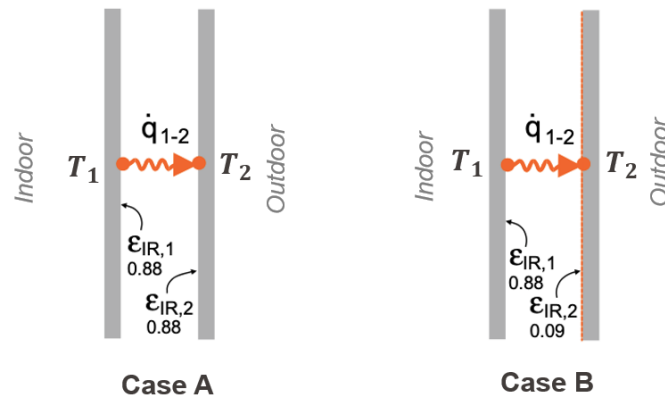

Figure 2: Illustration of cases (A) and (B)
Consider radiation heat transfer between two glasses in a double-pane window as illustrated in Fig. 2. The exterior side of the 1st glass has the temperature of $t_1 = 19^\circ\text{C}$. The interior side of the 2nd glass has a temperature of $t_2 = -8^\circ\text{C}$. In the case (A), both sides have the same emissivity value of $\epsilon_1 = \epsilon_2 = 0.88$. In case (B), the second glass is treated with a low emissivity coating with the emissivity of $\epsilon_2 = 0.09$. Compare the radiative performance of both cases by determining the radiative thermal resistance $R_{rad,1-2}$ and radiant heat flux between the glass panes \dot{q}_{1-2} .